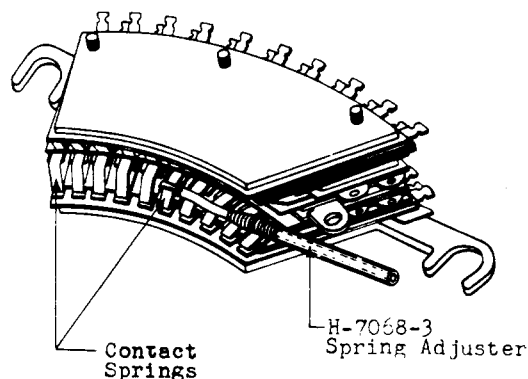

Fig. 14 — Adjusting for Contact Spring and Bank Contact Clearance
(1) To adjust the springs, insert the H-7068-3 spring adjuster between the switches and place the slot in the end of the adjuster over the contact spring which is to be adjusted, as shown in Fig. 14. Twist the handle of the spring adjuster as required. As these springs are very susceptible to the action of the spring adjuster, exercise care not to twist them excessively.